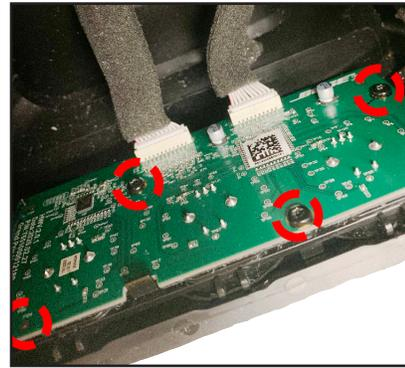

Figure 15. Volume Board Screws Removal
6.2 Remove the 4 screws that secure the Volume board as indicated in Figure 15.